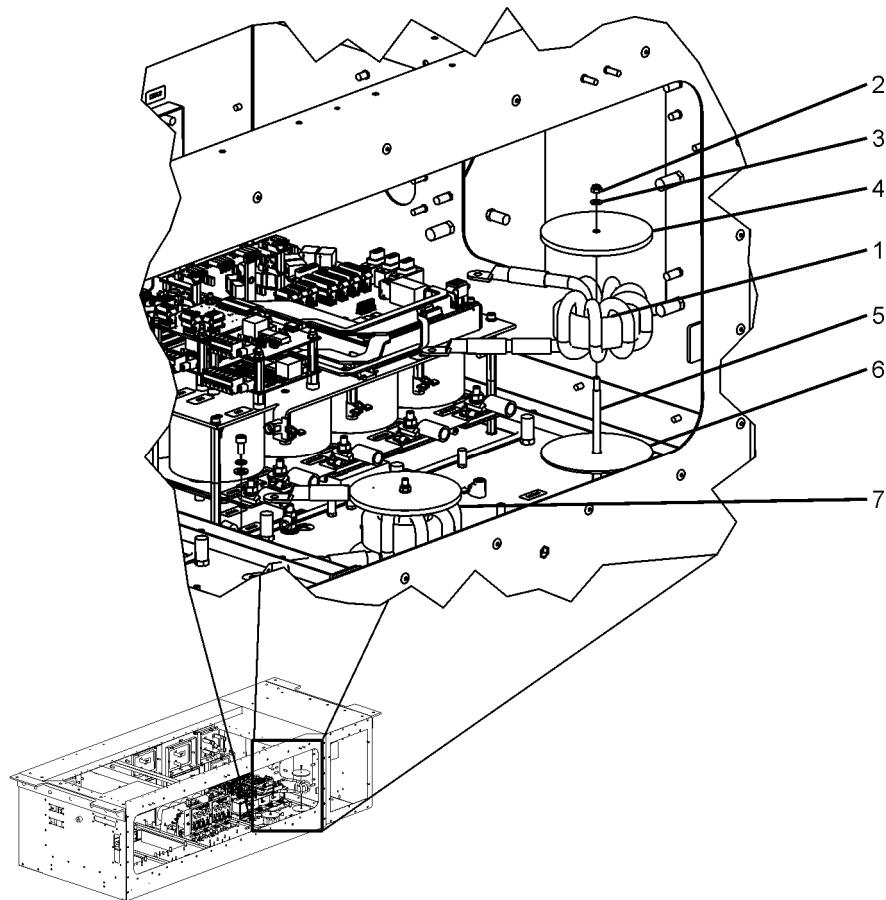

Figure 5-24: L202.1 & L202.2 Anchor Points
6. Detach L202 (see Figure 5-24). L202 (1 or 7) is mounted on a threaded rod and secured with a holding plate (4). The holding plate is fastened down by a M5 washer (3) and M5 locking nut (2). Remove these fasteners and remove the plate.
7. Remove L202. To extract the L202, pull straight up until the choke clears the threaded rod spindle (5), then extract the choke from the unit.
- a. Insert L202.1 and/or L202.2 (Figure 5-24). Insert the choke (1 or 7) by lowering the ring core onto the spindle (5) until the choke comes to rest on the base (6).
- b. Secure L202 (see Figure 5-24). The L202 (1 or 7) is held in place by a plate (4) which is held in place by an M5 locking nut (2) and m5 washer (3). Install the plate and fasten down with the washer and nut. Tighten the nuts to 45 lb-in (5.1 Nm) of torque.